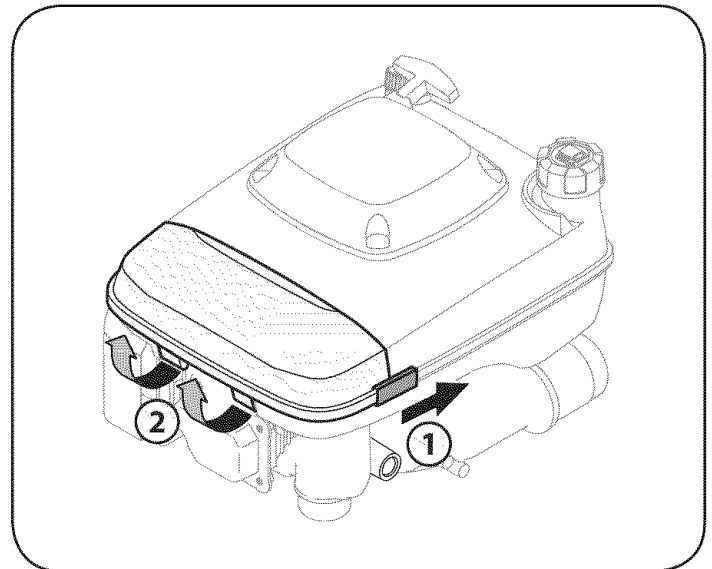

Figure 13
2. With two hands, pulling the two latches toward you and upward as shown in Figure 13, separate the air cleaner case from the air cleaner body.